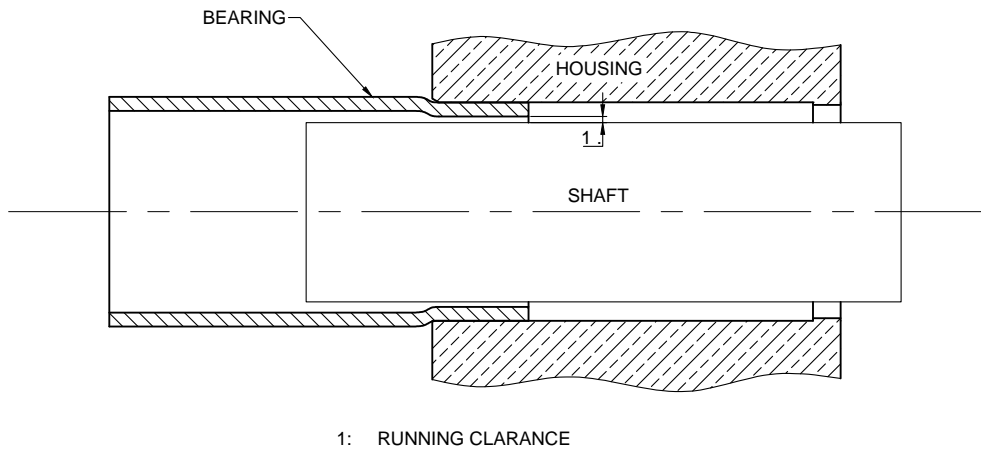

Figure 3.4: Cross section of shaft/rudderstock, bearing and housing illustrating running clearance.
The running clearance (RC) is the gap between the bearing and the shaft/rudderstock as illustrated in Figure 3.4.